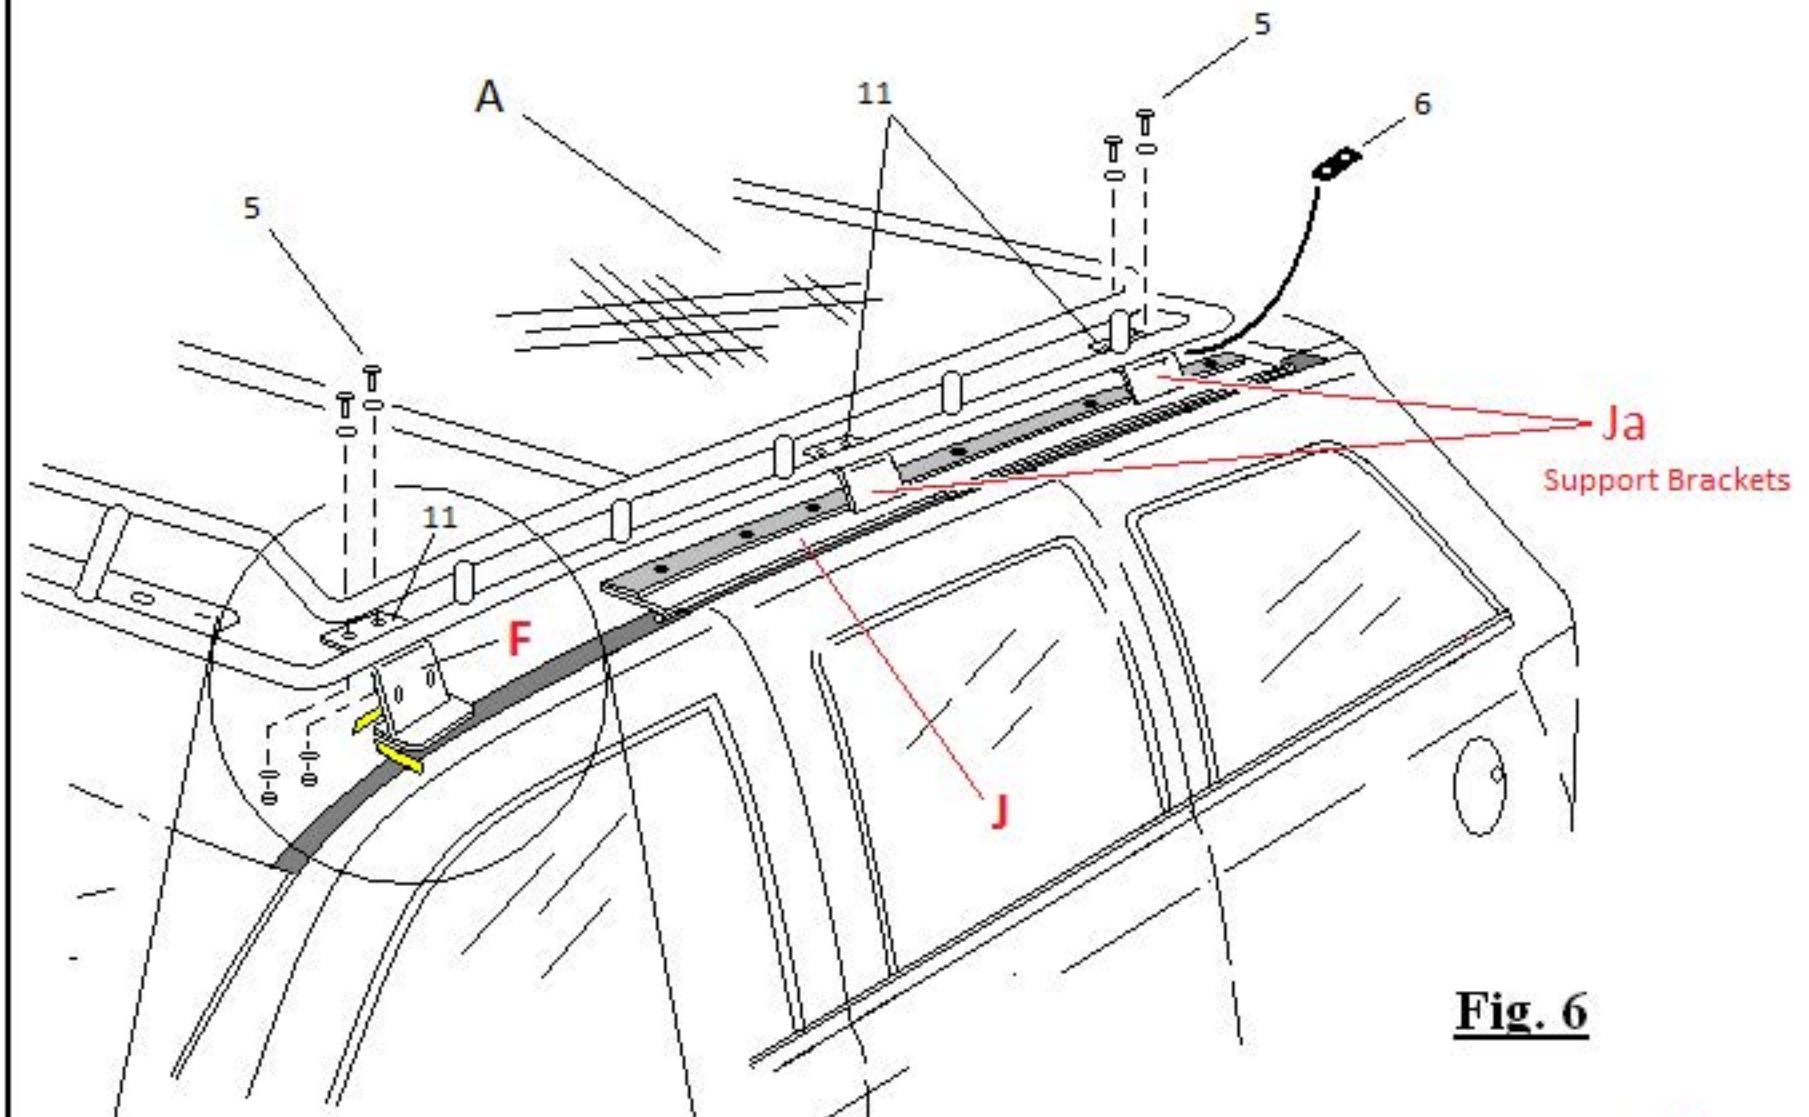
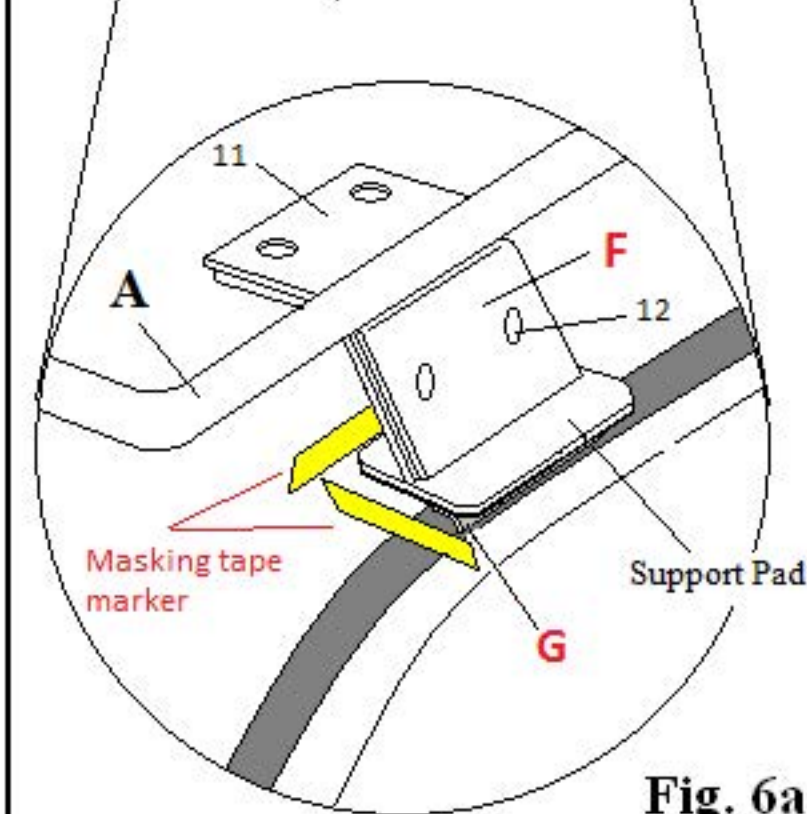

Fig. 6
Fig. 6a
- 7- Refer to page 9 Fig. 6 and with the help of two others place roof rack (A) onto roof rails (J) just previously installed. Line up the rear 4 welded in flanges (11) of roof rack (A) with the 4 roof rail support brackets (Ja) and use 8- 3/8-16 x 1" Stainless Steel hex head screws, 16- grade 8 yellow zinc flat washers and 8- grade 8 yellow zinc nylock nuts shown as (5) in Fig. 6 from hardware (Bag #4) of your hardware kit and attach roof rack (A) to support rail brackets (Ja). Make certain to slide a black rubber gasket (6) in between each roof rack welded in tab (11) and support bracket (Ja) as shown in Fig. 6. Typical screw attachment procedure per support bracket is threading 2- stainless hex head screws and yellow zinc flat washers down through the top roof rack flange (11) and through support bracket (Ja) and using two yellow zinc flat washers and two yellow zinc nuts under support bracket (Ja) to secure screws in place. Do not fully tighten at this time leave snug for adjustment.
- 8- Refer to page 9 Fig. 6 and Fig. 6a and remove the driver side support bracket (F) indicated by a sticker or stamp (D) from your hardware kit and place under roof rack's front driver side welded in flange (11) as shown in Fig. 6 and Fig. 6a. **Make certain screws (12) of support bracket (F) are loose and not fully tightened. The support bracket (F) must be able to adjust up and down during the install.** Use screw hardware located in (Bag #4) or your hardware kit and attach so that the base of the support bracket (F) sits partially on the rubber trim both passenger and driver side, do not fully tighten screws (5) as adjustments will need to be made. Roof rack (A) may need to be shifted slightly from passenger to driver side or vice versa in order to provide each side support bracket (F) with the support pad partially on the roof top rubber trim as shown in Fig. 6a. Once you have positioned the roof rack to provide the correct support bracket (F) alignment to vehicle rubber trim outline each support bracket passenger and driver side with masking tape as shown. Remove each support bracket from the roof rack at this time. Refer to page 2 and remove two support spacers (G) from your hardware kit. Peel off the protective double back adhesive tape film and attach spacers (G) onto the rubber trim as shown in Fig. 6a both passenger and driver sides. Peel off the double back protective film from the bottom of support brackets (F) and reposition support brackets (F) back in place and on top of support spacers (G) and fully tighten support brackets (F) to roof rack and follow by fully tightening the remaining 4 support brackets to the roof rack. Once all 6 support brackets have been fully tightened refer back to page 9 Fig. 6a. With the help of another person lift up the roof rack's driver side corner about ¼" to 3/8" high while holding down support bracket (F) in place on the roof top and over spacer (G) then fully tighten screws (12). Apply the same procedure to the passenger side. Remove the masking tape from the front and rear of the roof rack at this time.